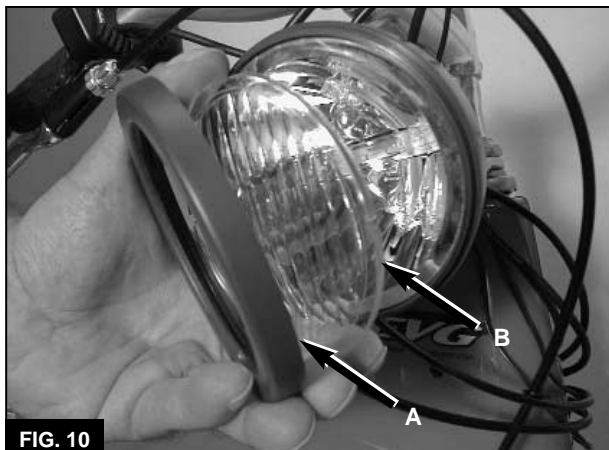

FIG. 10
1. Unscrew the bezel (A, **Figure 10**) from the headlight housing.
2. Remove the bezel and lens (B, **Figure 10**).
3. Install the lens (B, **Figure 10**) so the cutouts engage the tabs in the headlight housing.
4. Screw the bezel (A, **Figure 10**) in place. Do not over tighten the plastic threads.